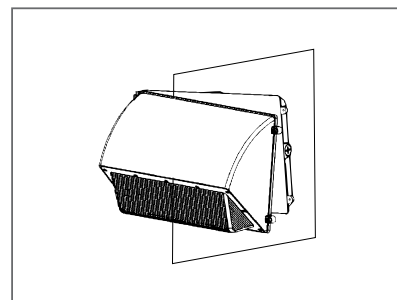

Figure 4
4. Use the screws to lock the fixture. (Figure 4)